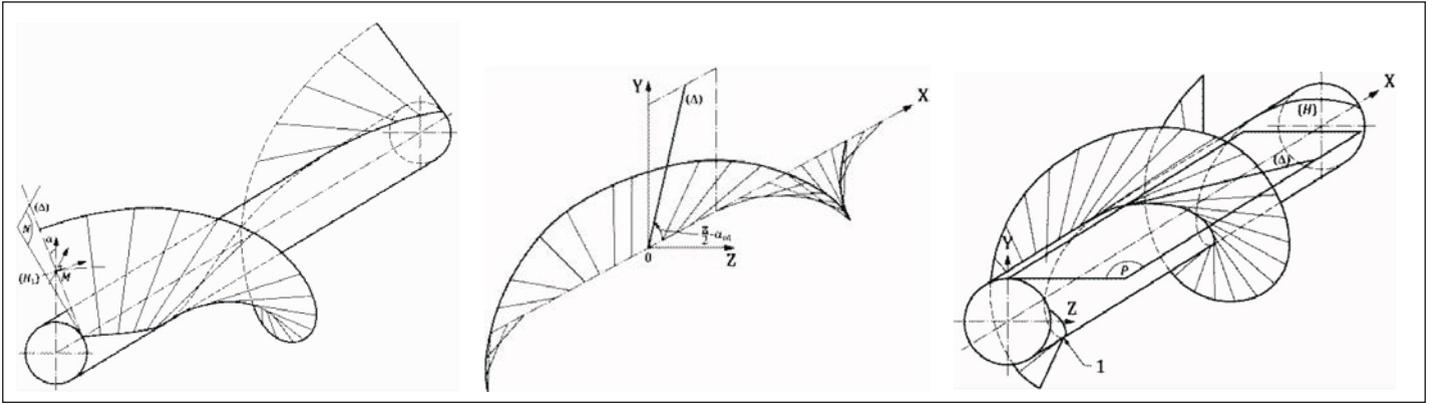

Figure 3 A, I and N profiles generated by a helical cylindrical displacement of a straight line.
- a. Profiles generated by a helical cylindrical displacement of a straight line that is available for A, I and N profiles (Fig. 3): For those three profiles a general equation has been set up; each profile is accessible by using the correct coefficients. The main parameter of those profiles is the radius in the axial profile of the worm.